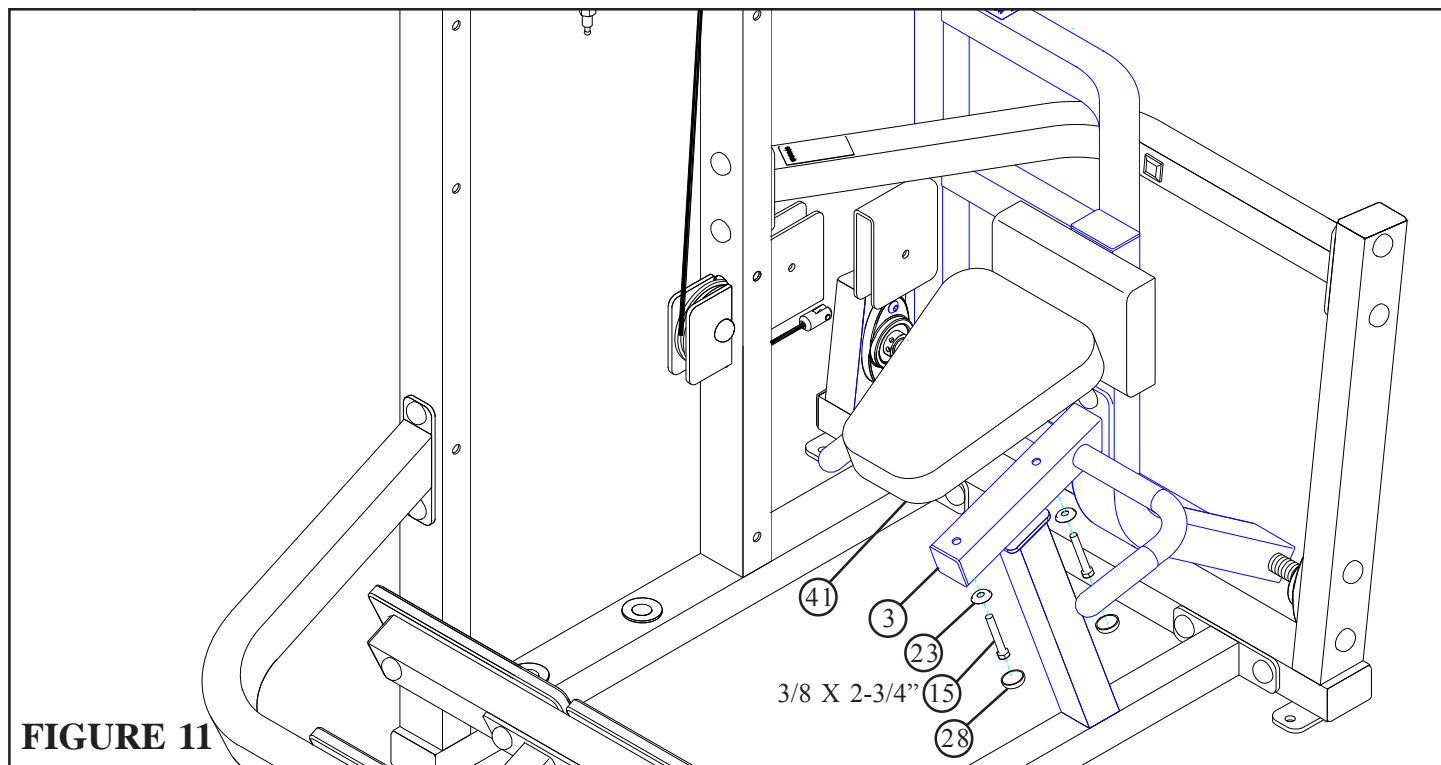

**FIGURE 10**
- **SECURELY** assemble the BACK PAD (40) to the BACK PIVOT (5) using two 3/8 X 1-1/4" BUTTON HEAD BOLTS (18) and two 3/8" LOCK WASHERS (24) as shown in FIGURE 10.